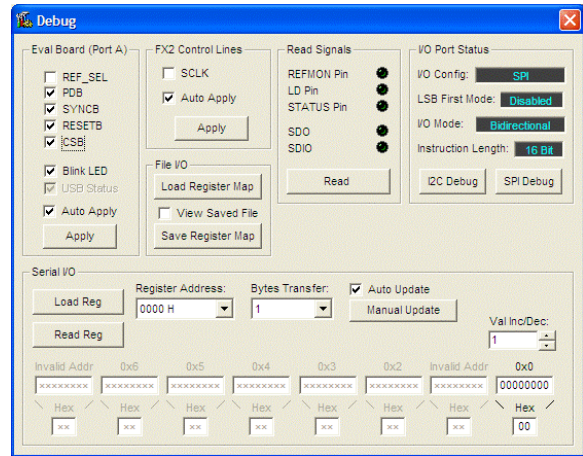
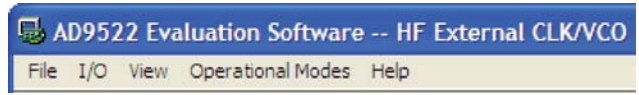
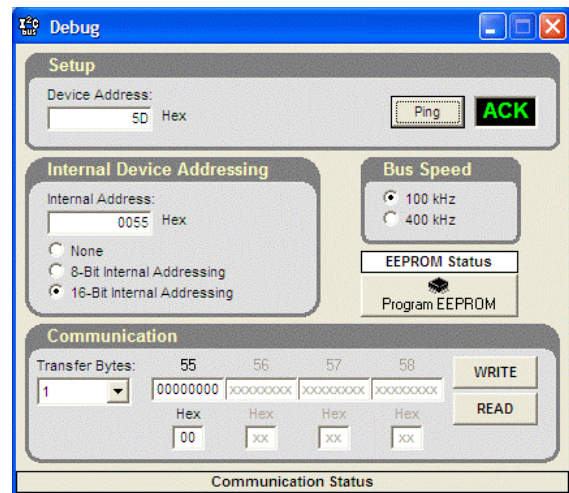

Figure 23. AD9522 Debug Window
Figure 24. Menu Bar
Figure 29. AD9522 Evaluation Software I2C Debug Window
The debug window shown in Figure 23 is accessed by clicking **Debug** from the **View** menu on the main window (see Figure 24).
7. From the **View** menu on the main window (see Figure 24), click **Debug Window**. Click the **I2C Debug** button. The window shown in Figure 29 appears.
8. Enter the I2C address set by Jumper S5 and Jumper S6 on the AD9522 evaluation board, and click **Ping**. The user should see a green **ACK** message, as shown in Figure 29. Repeat this step for the I2C address of the target AD9522. If **ACK** is returned for both addresses, the remote AD9522 is ready to be programmed. If the ping test fails, double-check the cabling between the boards, as well as the I2C address of the target AD9522. The user should ensure that the I2C address of the AD9522 on the evaluation board is different from the target AD9522. The user should also disconnect the jumper cable and make sure that I2C mode is working properly on the AD9522 evaluation board.